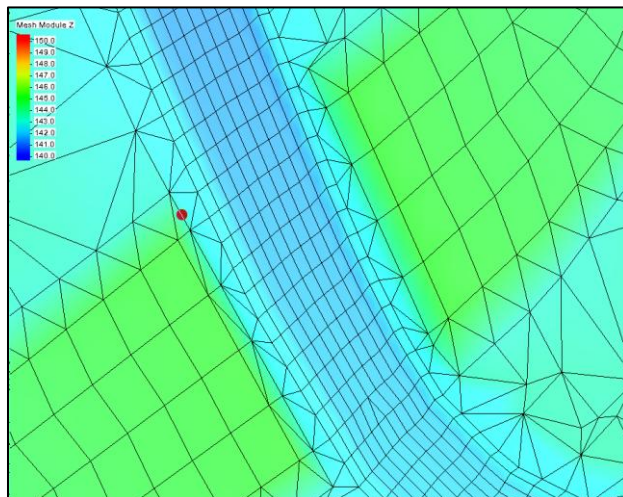

Figure 2 Point on left bank of channel
4. Click to make a point on the left side of the channel near the top of the natural channel embankment (as shown in Figure 2). Think of this as where the bottom of the bridge would intersect the abutment.